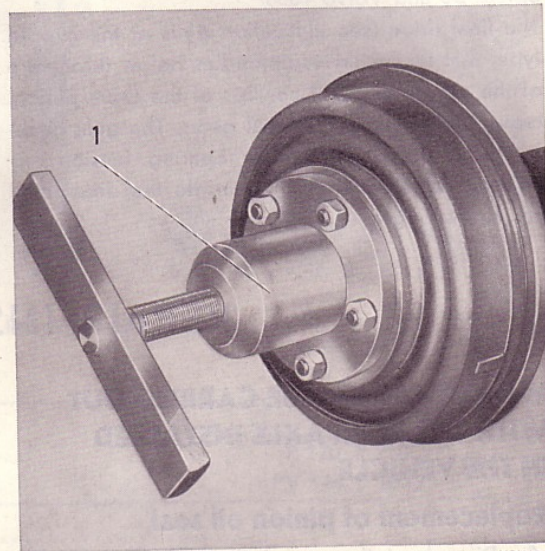

Fig. 9. Removing wheel hub
1. Remove the wheel and pull off the wheel hub, see Fig. 9. Use puller SVO 1791. If the handle for puller SVO 1791 can be replaced by spindle SVO 2763, which is sold separately, the nut remover can be used for removing the hub. Remove the brake backing plate after having placed a wooden block under the brake pedal and loosened the brake lining on the backing plate.
1. Remove the wheel and pull off the hub, see Fig. 9. Use puller SVO 1791. Remove the brake backing plate after having placed a wooden